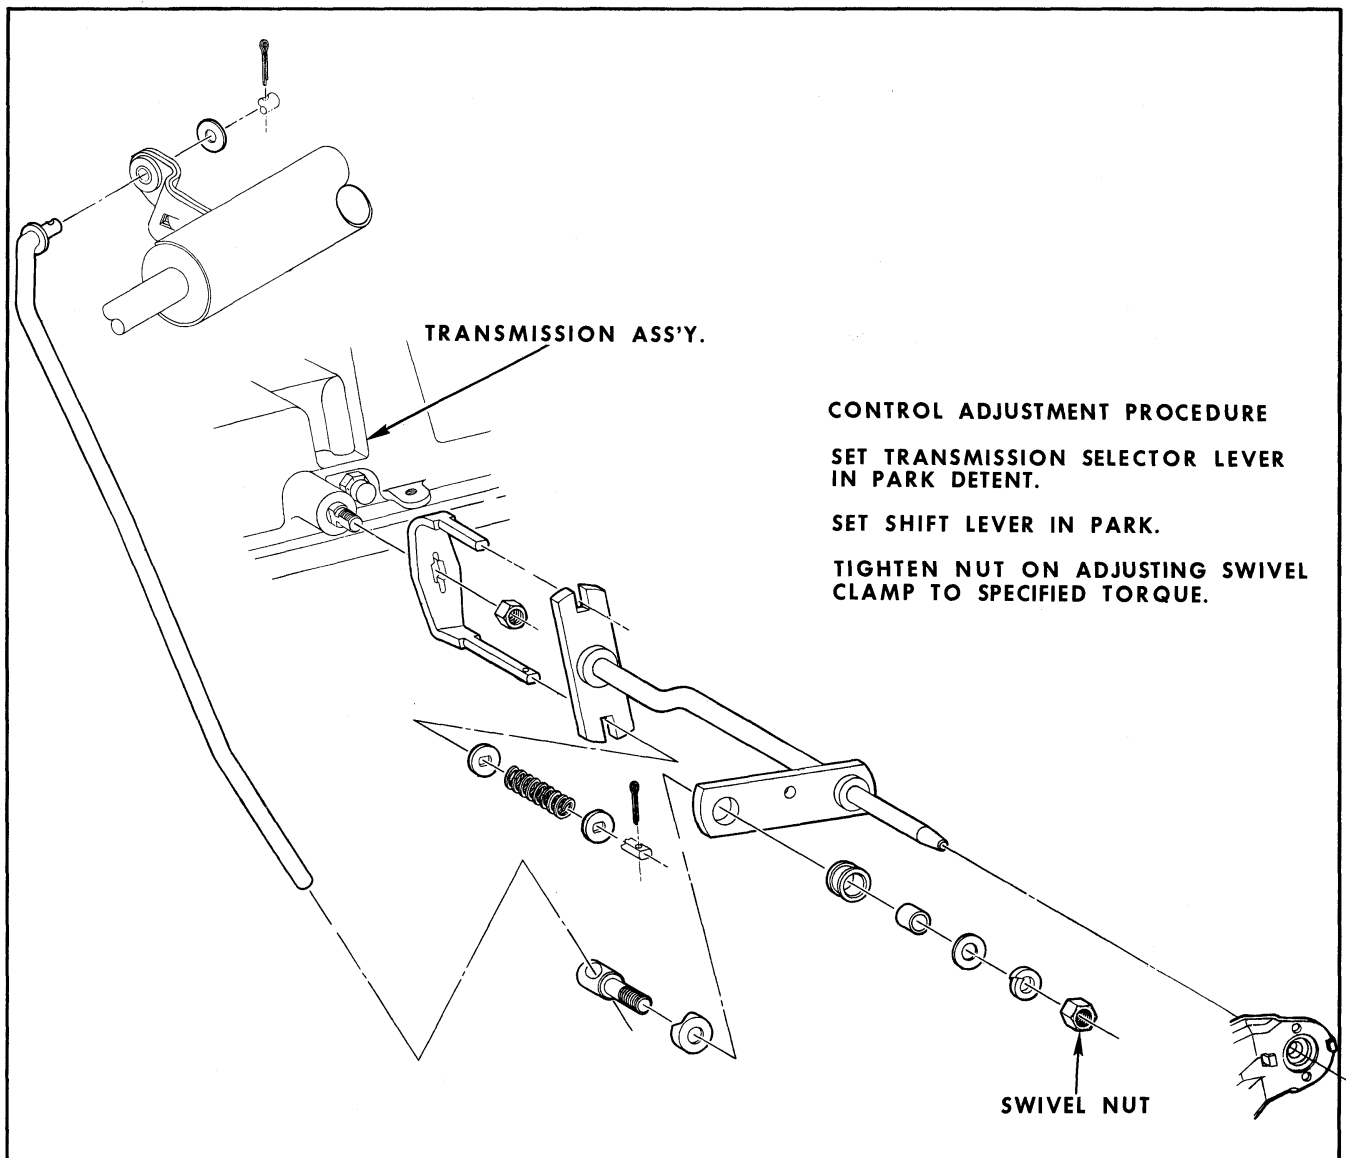

Fig. 7B-28 Standard Shift Control Linkage
1. Back off trunnion nuts on rod and trunnion assembly (Fig. 7B-29).